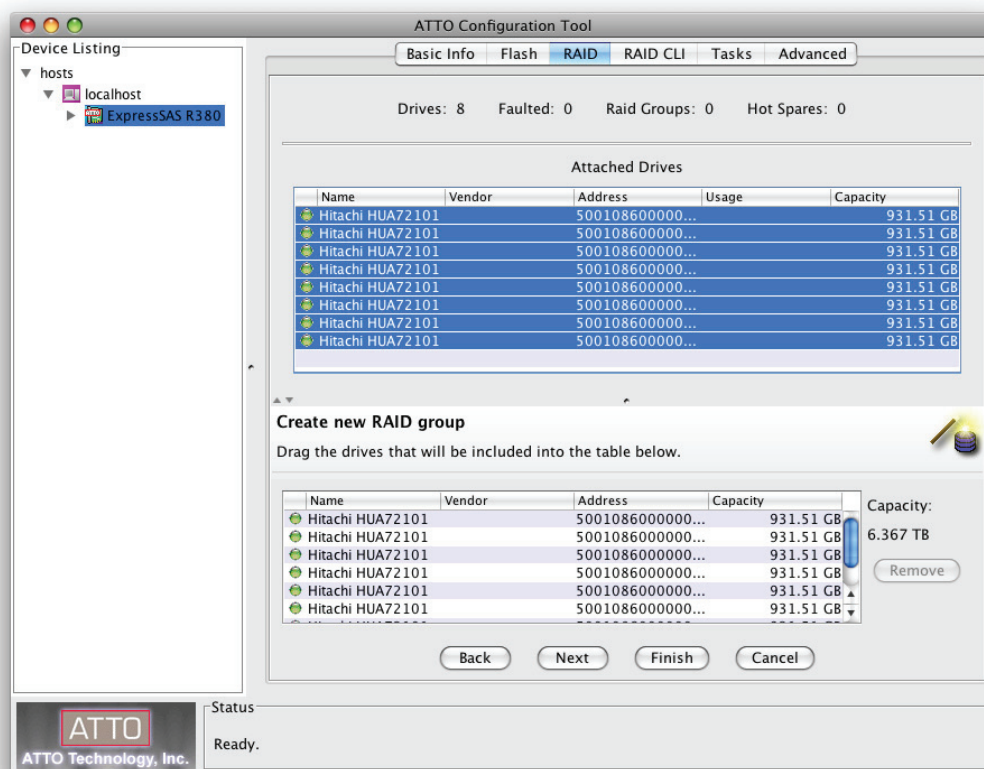

Figure 12
3. Click **Next**. Select the drives in the top pane and drag them into the device area in the bottom pane. See **Figure 12** on page 14.